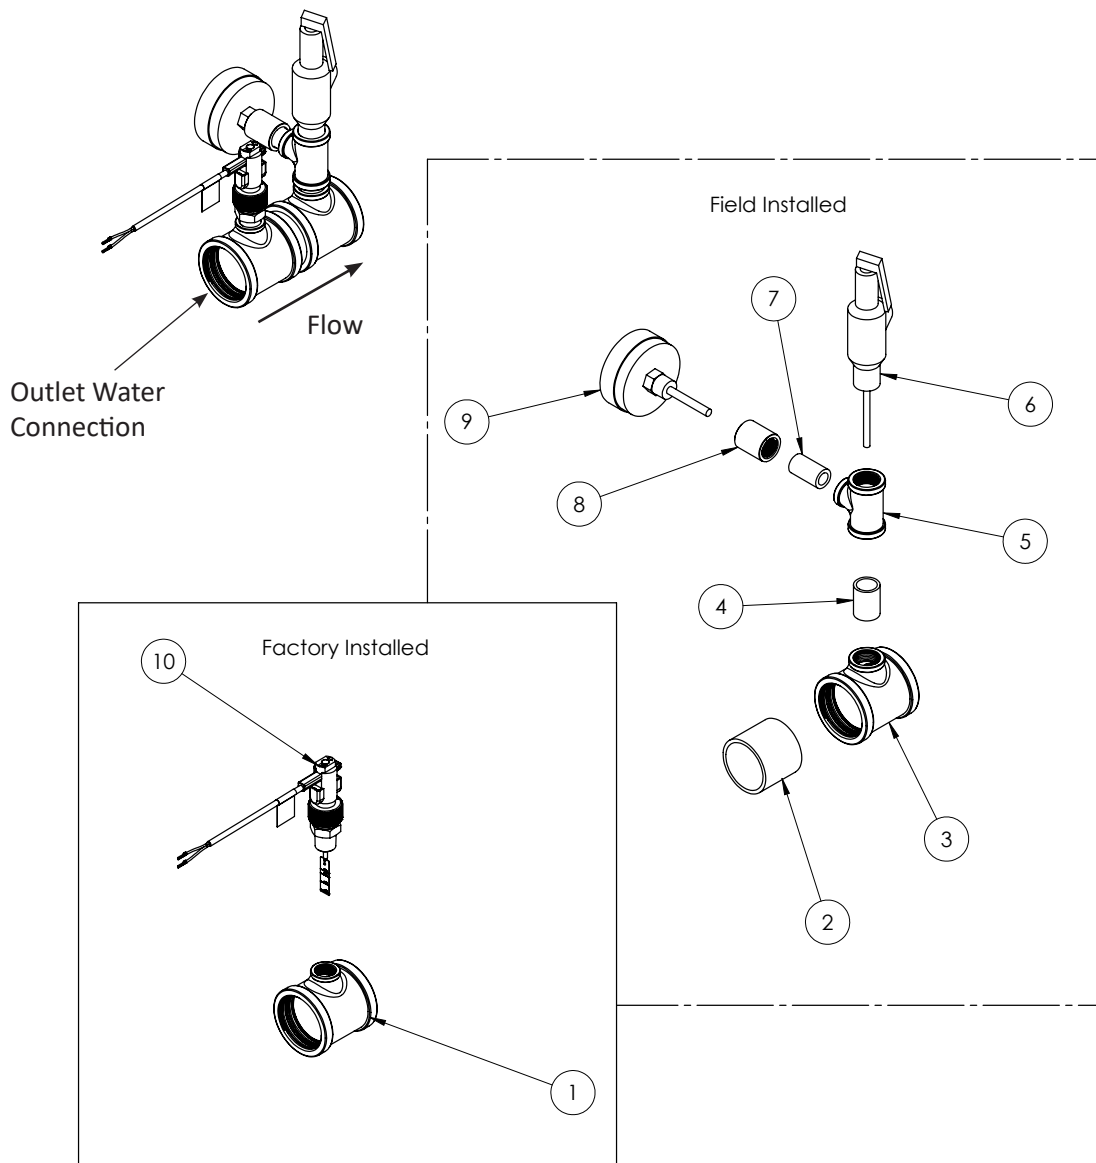

Figure 15: Relief Valve Package Assembly
2. The hot water supply line shall be connected to the outlet manifold of the appliance shown in Figure 15.
1. The relief valve, T&P gauge, and required fittings ship loose with the appliance. These parts must be installed to the outlet as shown in Figure 15.
- a. This appliance is shipped with a temperature and pressure safety relief valve complying with the standard for relief valves for hot water supply systems ANSI Z21.22 • CSA 4.4. Must be field installed as shown in Figure 15.